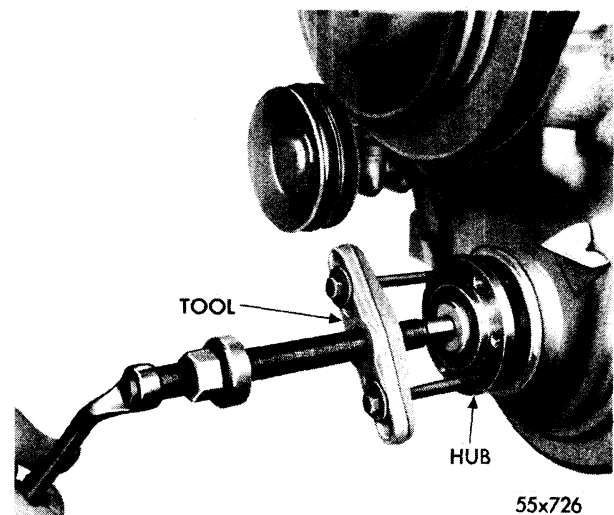

Fig. 90—Removing Hub From Crankshaft
- (18) Loosen the bolts holding the fan belt idler pulley. Push pulley toward block to release fan belt. Remove both belts.
- (19) Remove bolts and lockwashers that hold fan blades and pulley to hub. Slide blades and pulley off hub and away from engine.
- (20) Remove the bolt and flatwasher holding the vibration damper on crankshaft. Remove two of the damper bolts and install Tool C-3033, as shown in Figure 90. Pull damper assembly off end of crankshaft.
- (21) Remove bolts holding fuel pump to chain case cover. Pull pump straight out and away from engine. Discard the gasket.
- (22) Remove the water pump housing and discard the gasket.